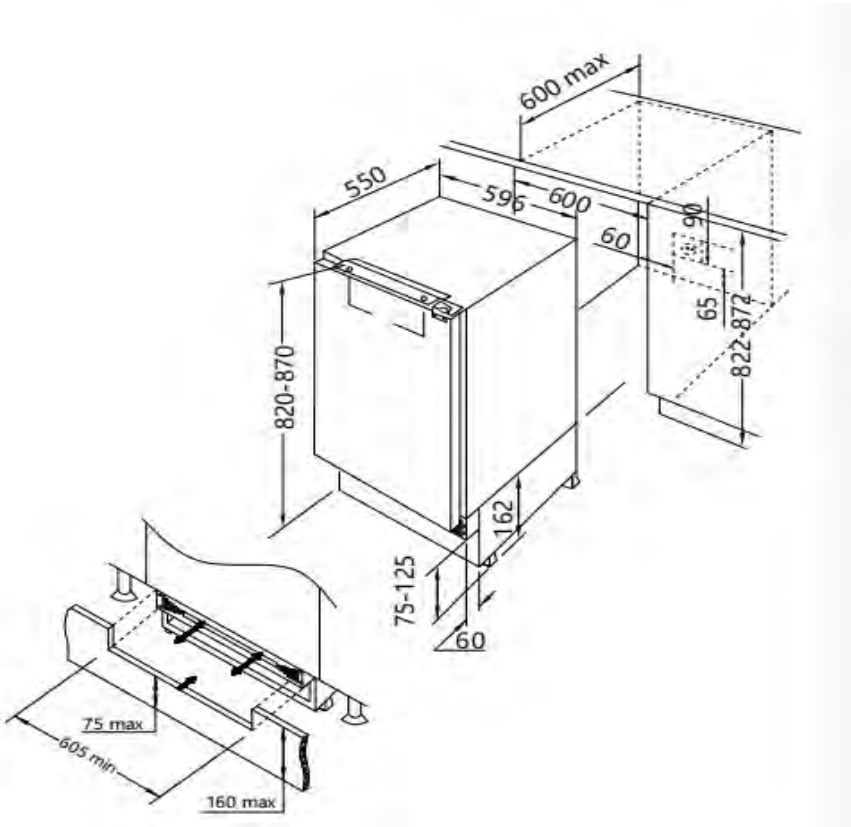

Fig. 4
- Fig. 4 shows the installation requirements for your appliance. All measurements are in millimetres. Failure to install the appliance correctly can lead to increased running costs, premature failure and may invalidate the warranty provided with the appliance